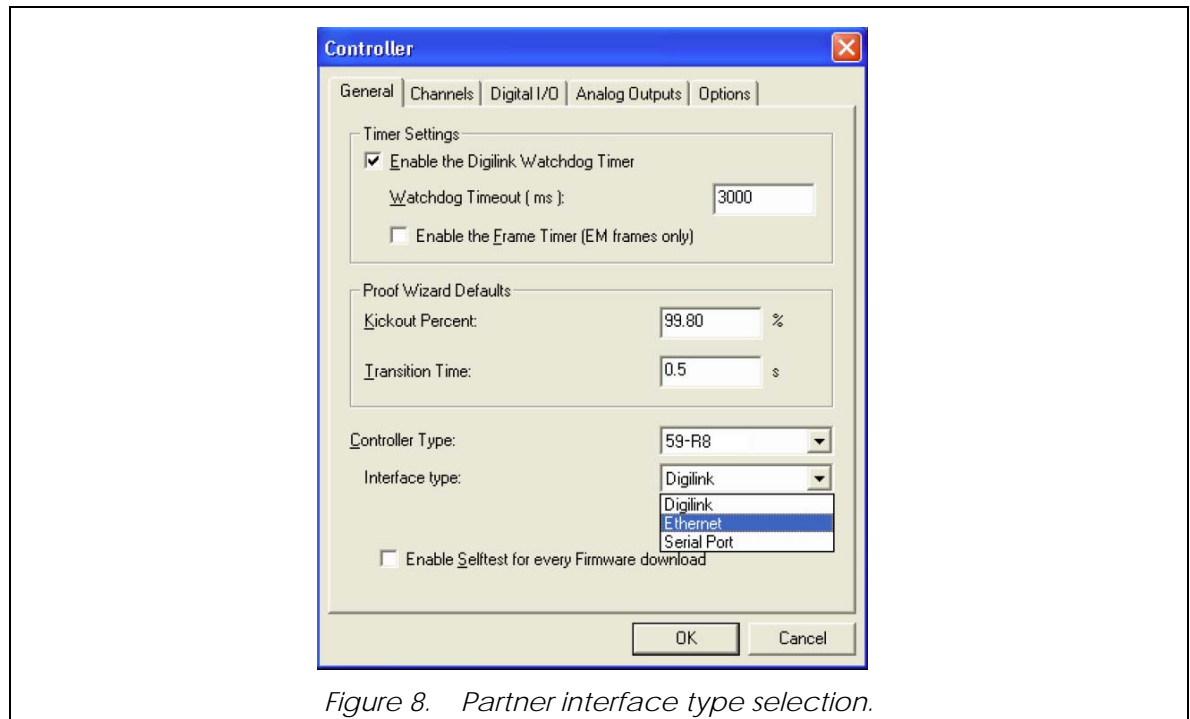

Figure 8. Partner interface type selection.
- vi. Select **Ethernet** as the Interface type (Figure 8); a third box appears for the MAC address.